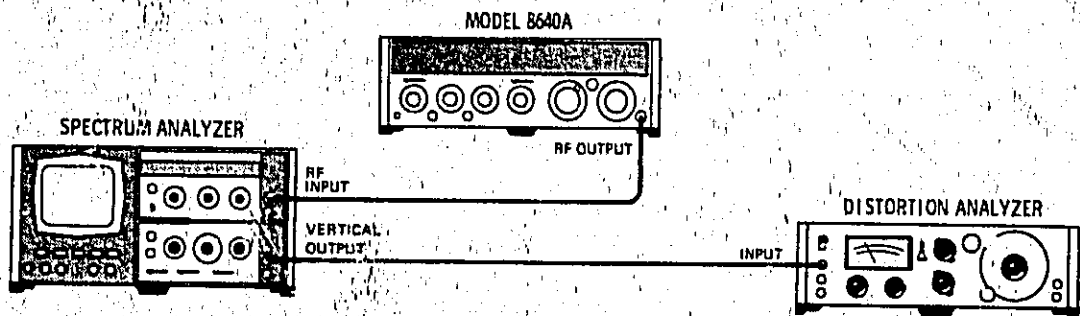

Figure 4-11. AM Distortion Test Setup
1. Connect equipment as shown in Figure 4-11 after setting Signal Generator's controls as follows: